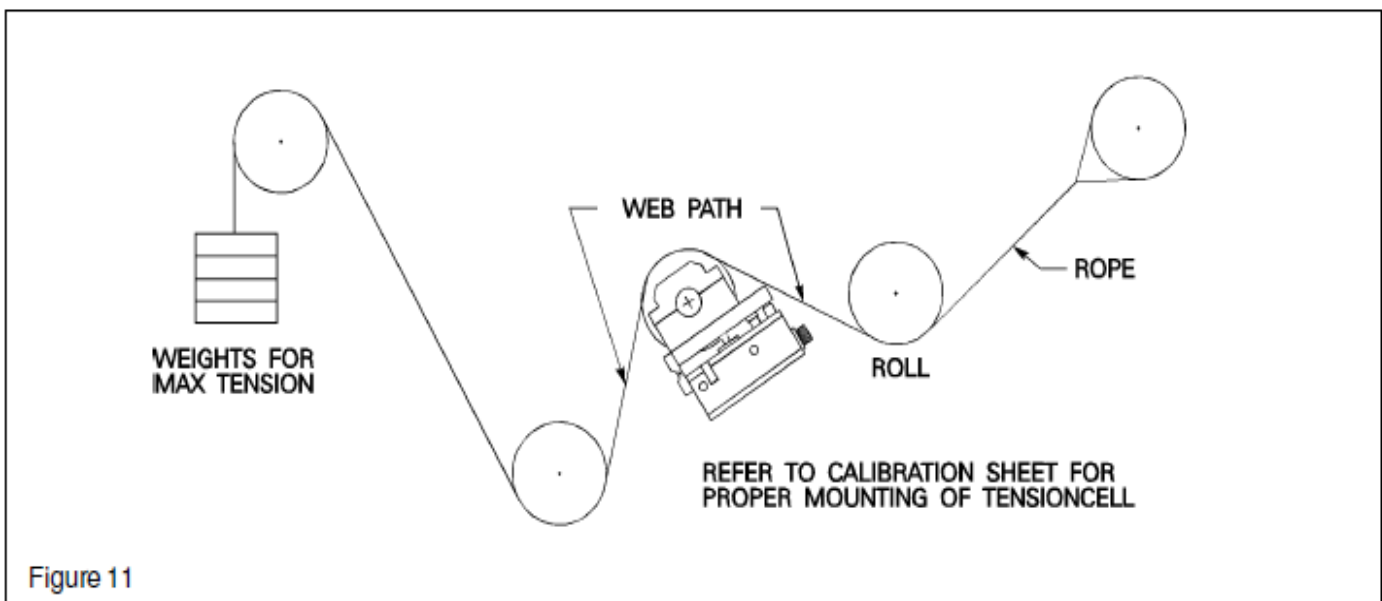

Figure 11
2. With one end of the rope secured, hang a known weight, so that the total tension is equal to the maximum web tension specified on the calibration sheet. (See Figure 11)